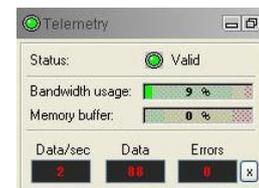

Figure 4-4 Telemetry panel
6. Press the **Record** button in the **Acquisition** panel (Figure 4-4), specify a file name and start the logging.
The telemetry provided through the ALTLogger is self-tuning. In case communication status is not valid the user can manually adjust the settings. In the **Telemetry** panel of the dashboard click on **Settings** to display the **Configure Tool Telemetry** dialog box (Figure 4-4). A procedure to achieve valid communication is given below: